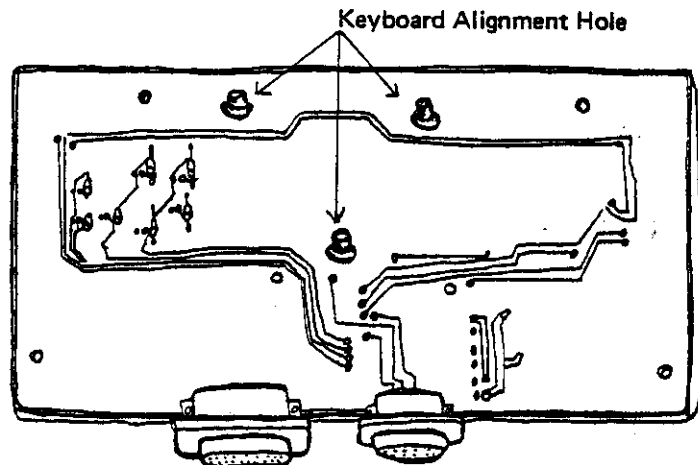

FIGURE 5: Keyboard Installation On PC Board
- () 43. Install the keyboard to the COMPONENT side of the PC board; ENSURE THAT ALL KEYBOARD PINS (124) PROTRUDE TO THE SOLDER SIDE OF THE BOARD. Align the keyboard so that the three (3) black plastic feet on the rear of the keyboard project through the metal-rimmed alignment holes on the solder side of the keyboard (see Figure 5). Solder the keyboard pins (124).